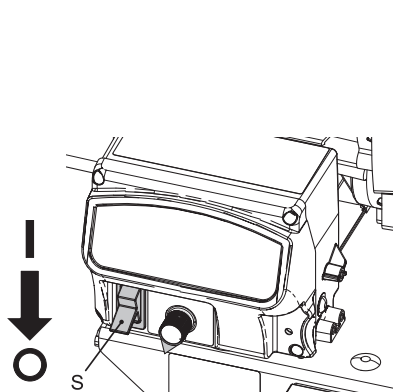

Fig. 8
1. Set the motor switch (S) to the OFF position. (Fig. 8)